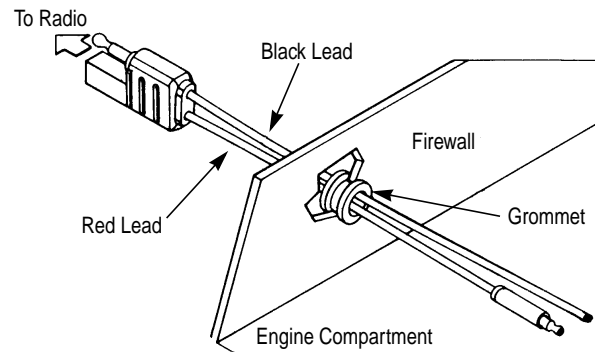

Figure 2-1. Power Cable Routing into the Engine Compartment
3. From inside the vehicle, feed the red and black leads (without lugs attached) through the access hole and into the engine compartment. See Figure 2-1.